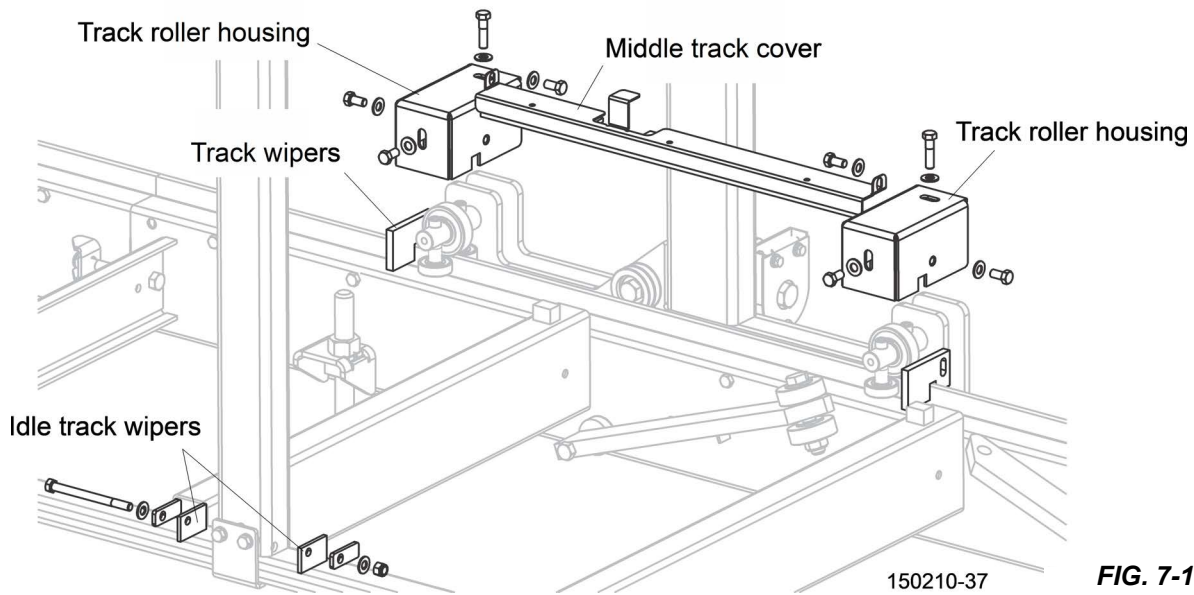

FIG. 7-1
9. Retighten the screw. See FIG. 7-1.